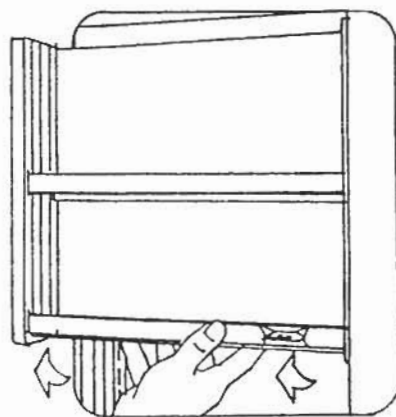

Figure 2-32. Freezer Utility Rack
1. To access the freezer evaporator fan motor, lift off the freezer utility rack (Figure 2-32).